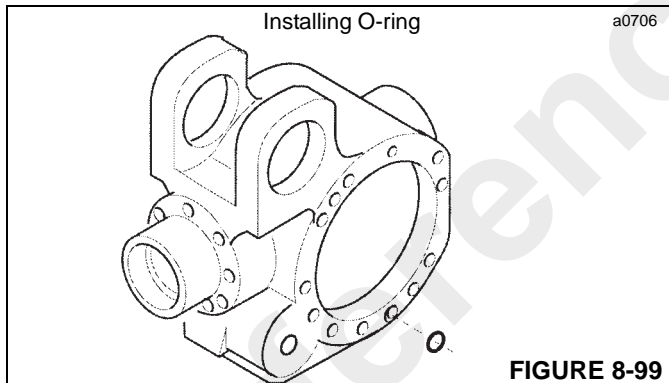

FIGURE 8-99
5. Install a new O-ring (Figure 8-99) in the oil pipe hole on the center housing. Lubricate the O-ring before installation.